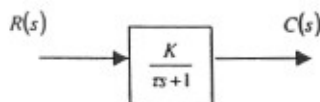

Figure 9.1: System
- (2) 9. a) Determine the type and order of the system shown in Fig. 9.1.